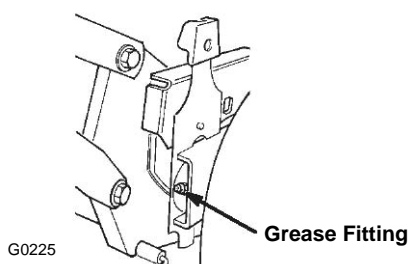

Figure 26
2. Wipe the grease fittings with a clean rag (Fig. 26).
3. Install a grease gun onto the fitting and gently apply 2 or 3 pumps of #2 multi-purpose lithium base grease (Fig. 26).